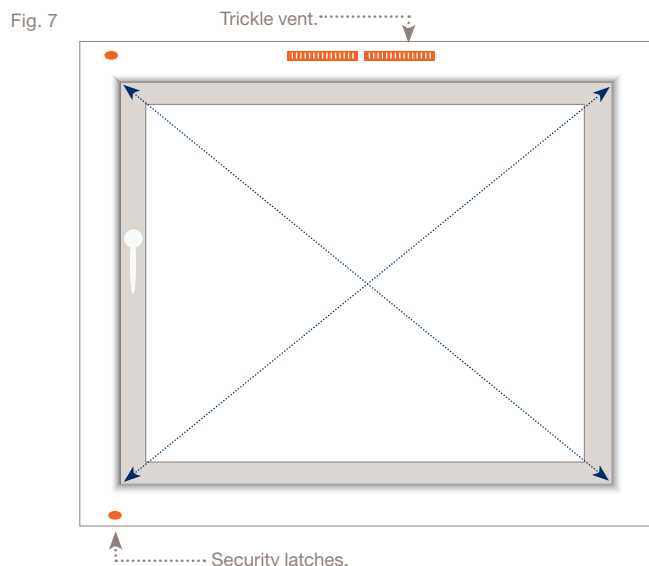

Fig. 7
- Ensure that your window frame is free of any obstructions such as trickle vents (Fig. 7) so that you have a clean area to fix the fly screen to.